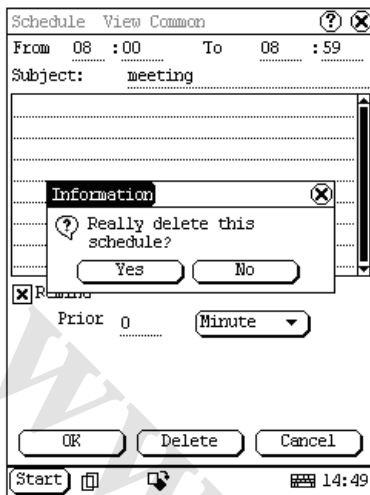

Figure 4-35
- 3) Then the schedule will be shown in the opened Schedule View interface. See Figure 4-35.